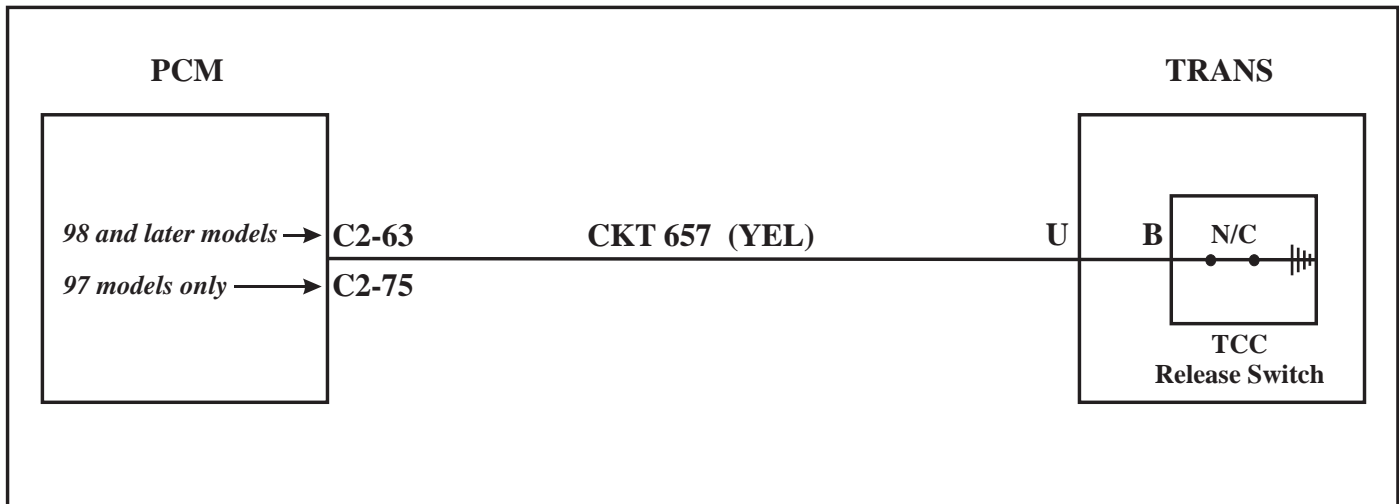
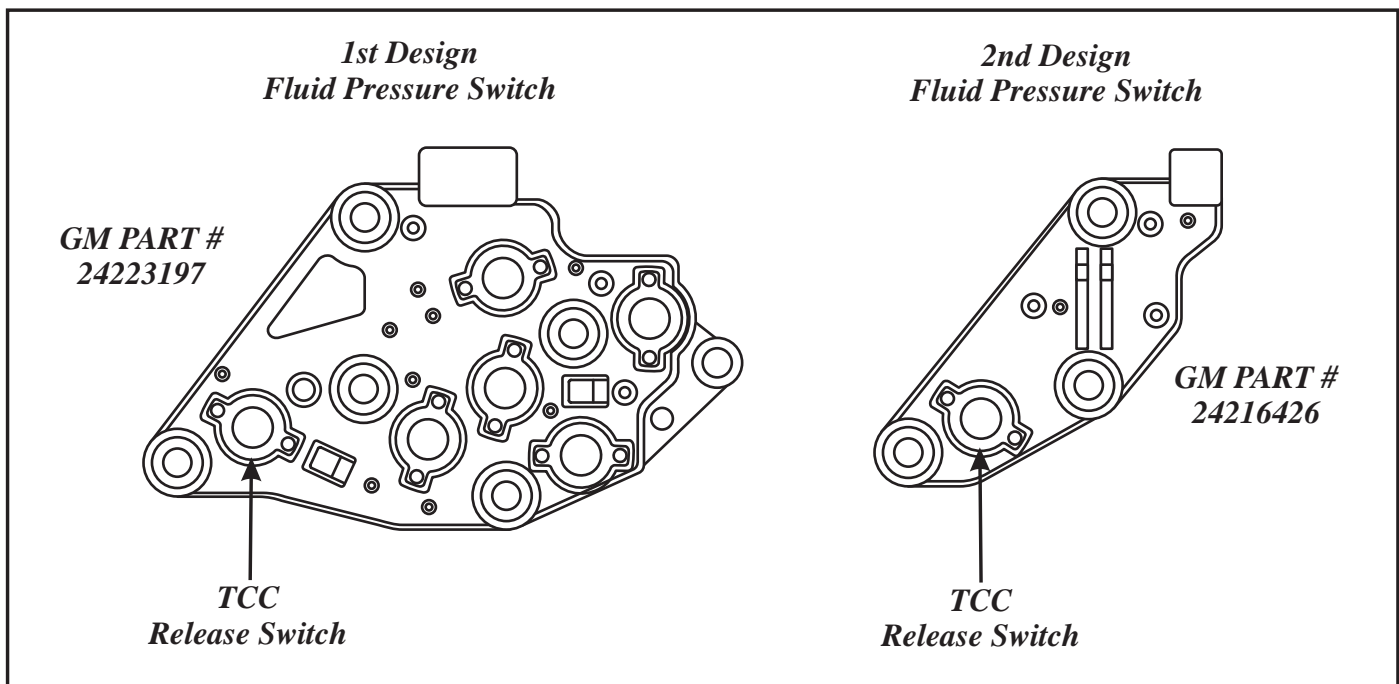

Figure 1
Figure 2
**CAUSE:** The PCM supplies 12 volts on CKT 657 to the TCC release switch with the ignition switch on or in the run position. (See figure 1) The TCC release switch is located inside the transaxle as part of the fluid pressure switch assembly. (See figure 2) This code is typically set when voltage on CKT 657 remains low, 6 times for 4 seconds, when TCC is commanded off during the current ignition cycle.
#### SERVICE INFORMATION: (See Figure 2)